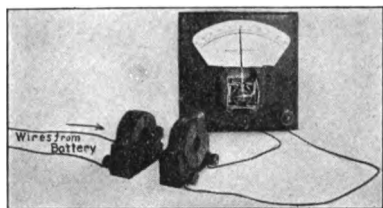

FIG. 220.—CURRENT INDUCED BY MEANS OF A SOLENOID
**244. Effect Produced by Using a Solenoid instead of a Permanent Magnet.** If (Fig. 220) a solenoid is used instead